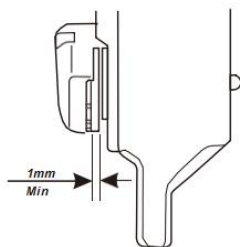

Fig.13
- When you check your brake pads due to falling performance, check their thickness. If they are less than 1 mm (Fig. 13), they will need replacing.